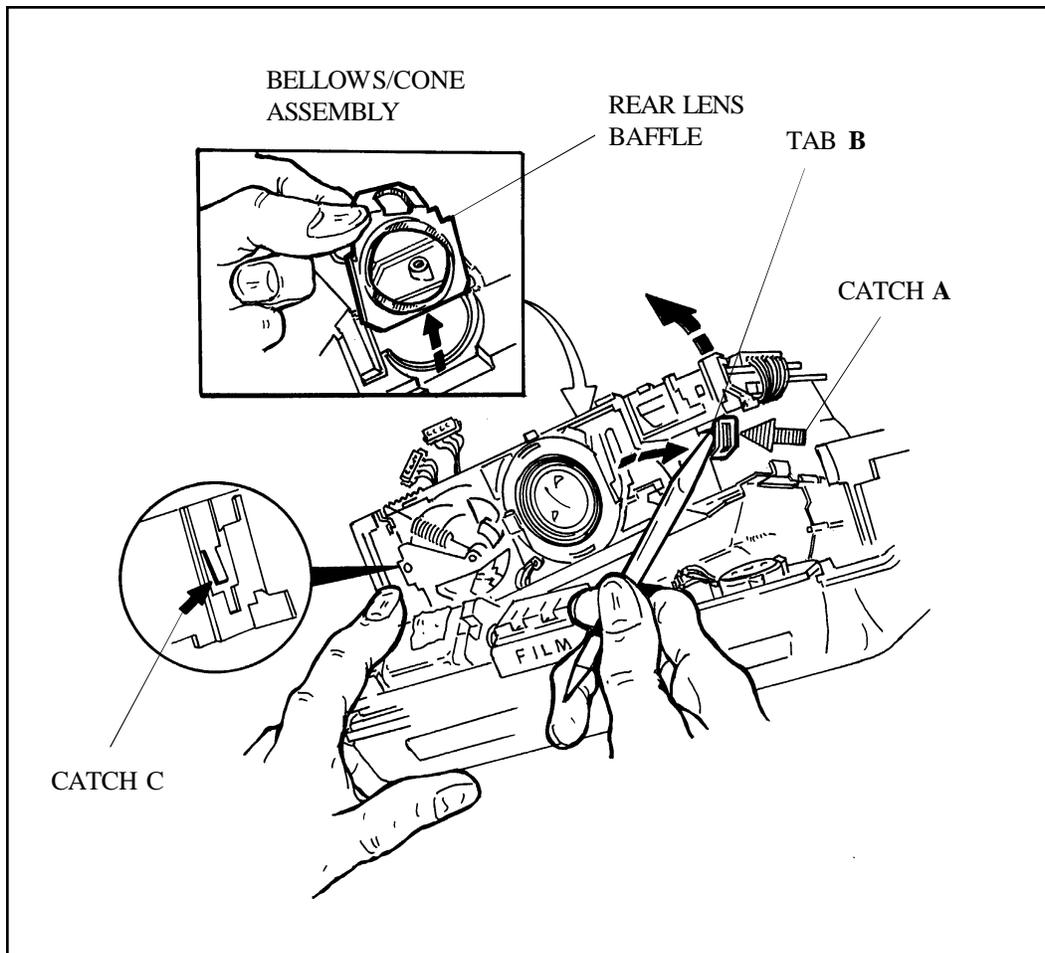

Figure 3-14. Removing Shutter Assembly from Bellows/Cone Assembly
- a. Using a greenstick, gently pry out the catch **A** on the Bellows/Cone Assembly, just enough to release it from the tab **B** on the right (Strobe) end of the Shutter Baseblock (Figure 3-14). Gently lift up the right end of the Shutter Assembly until the locking catch **C** at the left end releases. Then lift the Shutter Assembly straight up and out of the Bellows/Cone Assembly.
- b. Remove the Rear Lens Baffle (Figure 3-14), being careful not to let it fall down inside the Bellows/Cone Assembly.
- a. Replace the Rear Lens Baffle (Figure 3-14), then slide the Shutter Assembly straight down into the Bellows/Cone Assembly. Be sure that the locking catches at left and right ends engage the Shutter Baseblock.